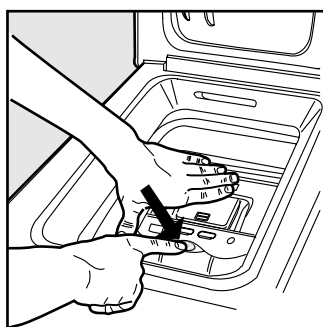

Fig. 2
B) Then open the drum using both hands as shown in Fig. 2:
- press the button indicated by the arrow in Fig. 2 lightly downwards, with one hand firmly resting on the doors to prevent them from suddenly opening and hurting your fingers;- therefore follow the appliance doors along as these unhook and open easily.